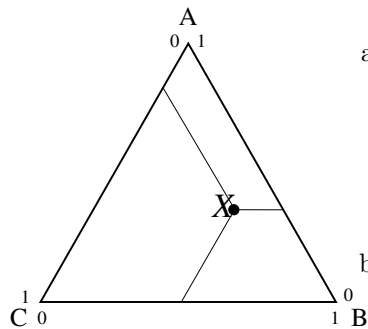

Figure 2: Ternary phase diagram at chosen  $P$  and  $T$ .
- A ternary phase diagram is often drawn for constant pressure and temperature. In such a diagram, each side of the equilateral triangle represents the mole fraction of one of the three components. Show that for each point X in such a diagram (like in figure 2) the following equation is valid  $x_A + x_B + x_C = 1$ , in which the line A, B represents a composition with  $x_C = 0$  and analogously for the two other sides.